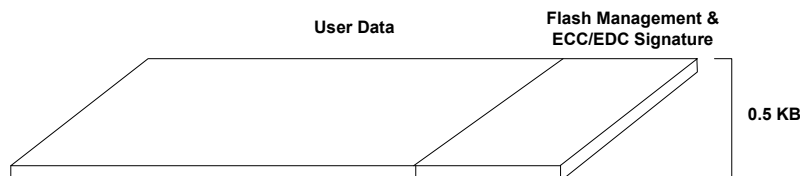

Figure 12: Page Structure
- **Page** – Each page contains 512 bytes of user data and a 16-byte extra area that is used to store flash management and EDC/ECC signature data, as shown in Figure 12.